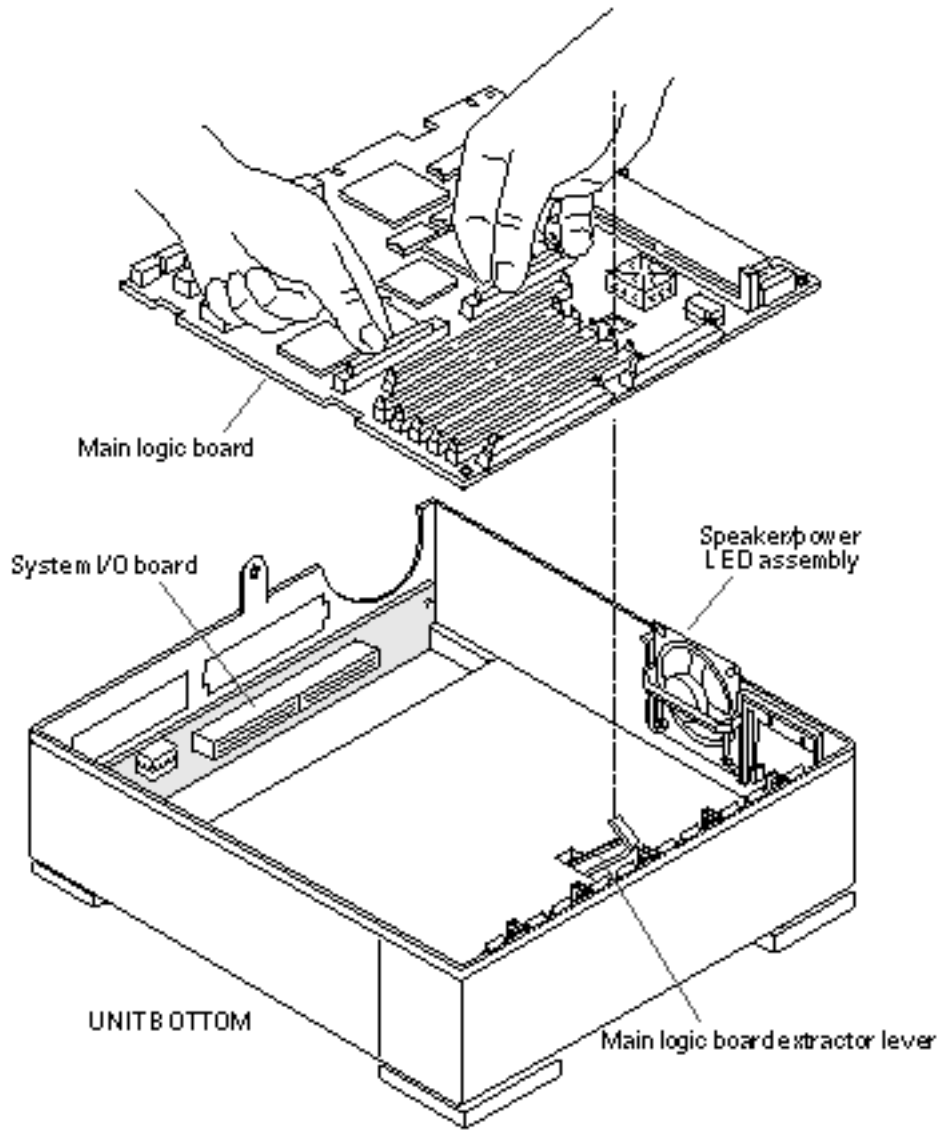

Figure 11-17 Removing and Replacing the Main Logic Board
- c. **Grasp the board by the SBus connectors with both hands. Tilt the board slightly to avoid the speaker assembly and lift it up and out of the system unit (see Figure 11-17). Avoid handling any of the delicate electronic components or touching any of the circuit board traces.**
a. Grasp the board by the SBus connectors with both hands and guide the main logic board extractor lever through the rectangular cutout in the main logic board (see Figure 11-17). Avoid handling any of the delicate electronic components or touching any of the circuit board traces.